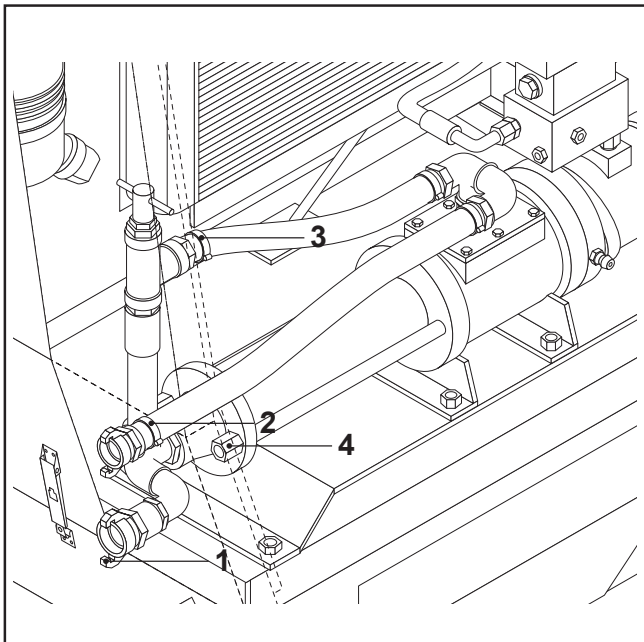

FIG. 82
- Disconnect the quick-release coupling (FIG. 82-REF. 1), unscrew the hose clamps (FIG. 82-REF. 2/3) and remove the slurry delivery manifold by loosening the tie rod locking nuts (FIG. 82-REF. 4) using the wrench supplied.